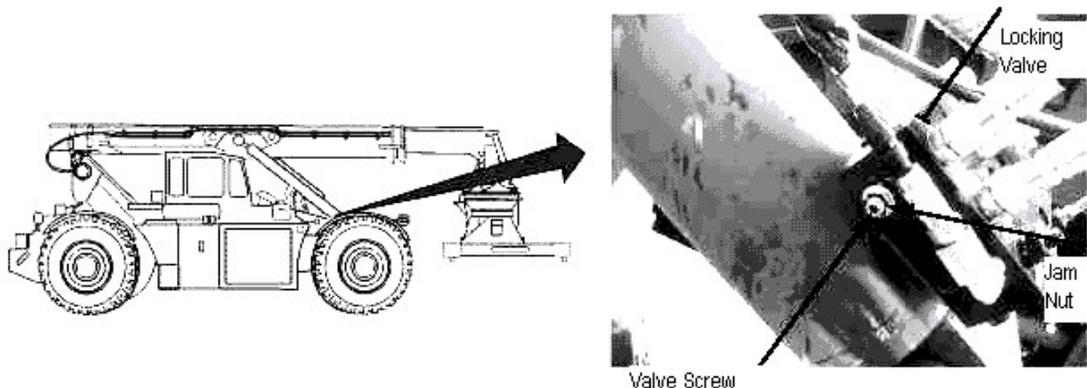

Figure 3-167
- (3) Remove lower pin from dolly wheel and set aside.
- o. At side of locking valve at base of each lift cylinder, loosen float valve jam nut and turn float valve screw five turns counterclockwise and retighten jam nut to prevent loss (see Figure 3-167).